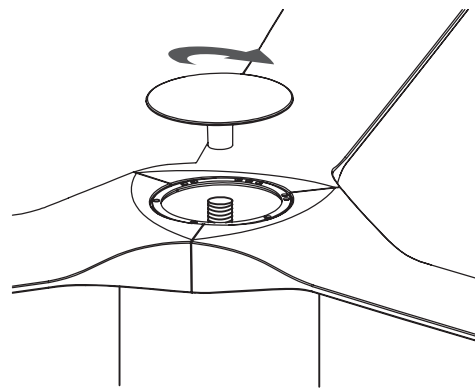

FIGURE 8
1. Tightly twist the decorative lower cap onto the motor assembly (Fig. 8).